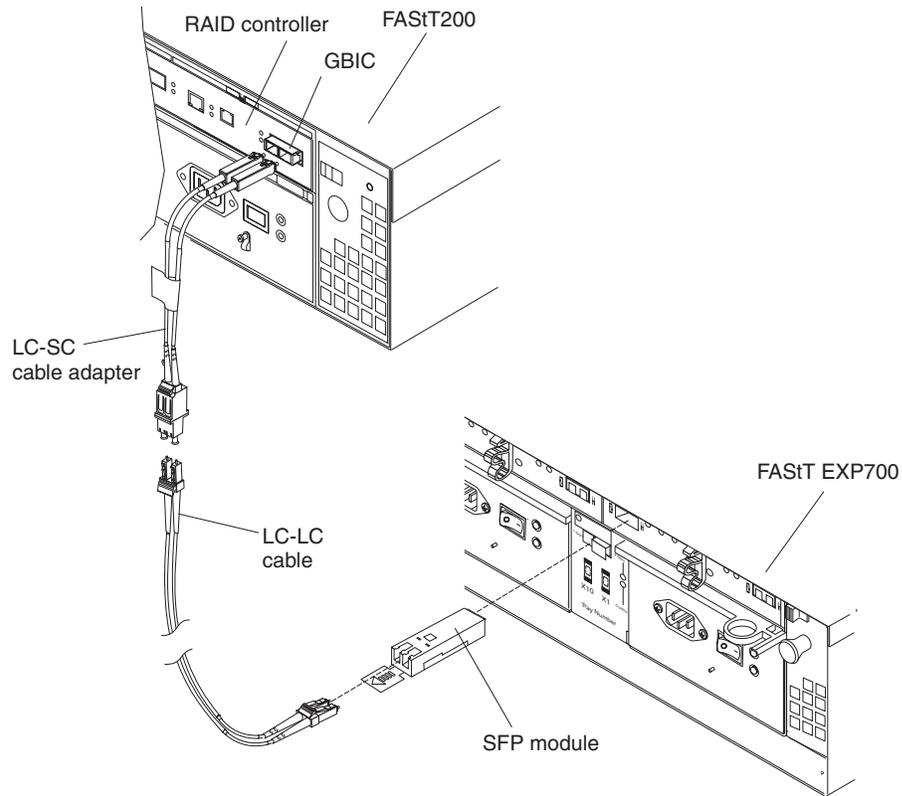

Figure 29. Connecting the FAStT200 to the FAStT EXP700
2. Using Figure 29 on page 30 as a guide, complete the following steps to connect the FASTt200 to the FASTt EXP700: